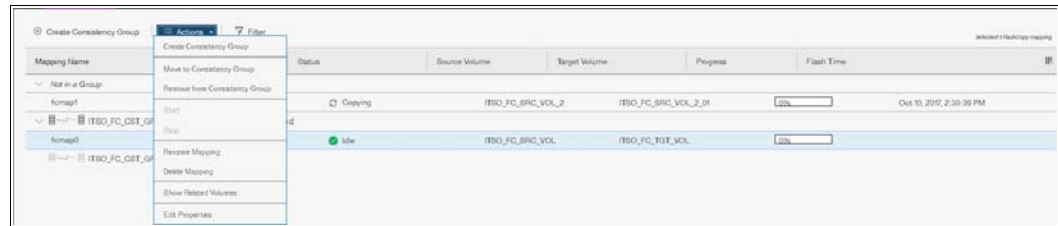

Figure 10-60 Rename Mapping action
3. Click **Actions** → **Rename Mapping**, as shown in Figure 10-60.